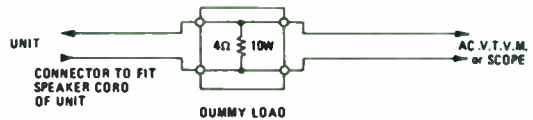

Fig. 6
2. Connect an AC voltmeter (VTVM) across speaker or dummy load either front or rear only. 4 ohms, 10W, wirewound resistor See Fig. 6